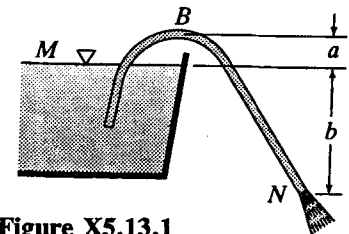

Figure X5.13.1
5.13.1 Assume there is friction head loss in the siphon of Fig. X5.13.1, where  $a = 1$  m,  $b = 4$  m. The loss between the intake and B is 0.6 m and between B and N is 0.9 m. What is the rate of discharge and pressure head at B when the diameter is 150 mm?